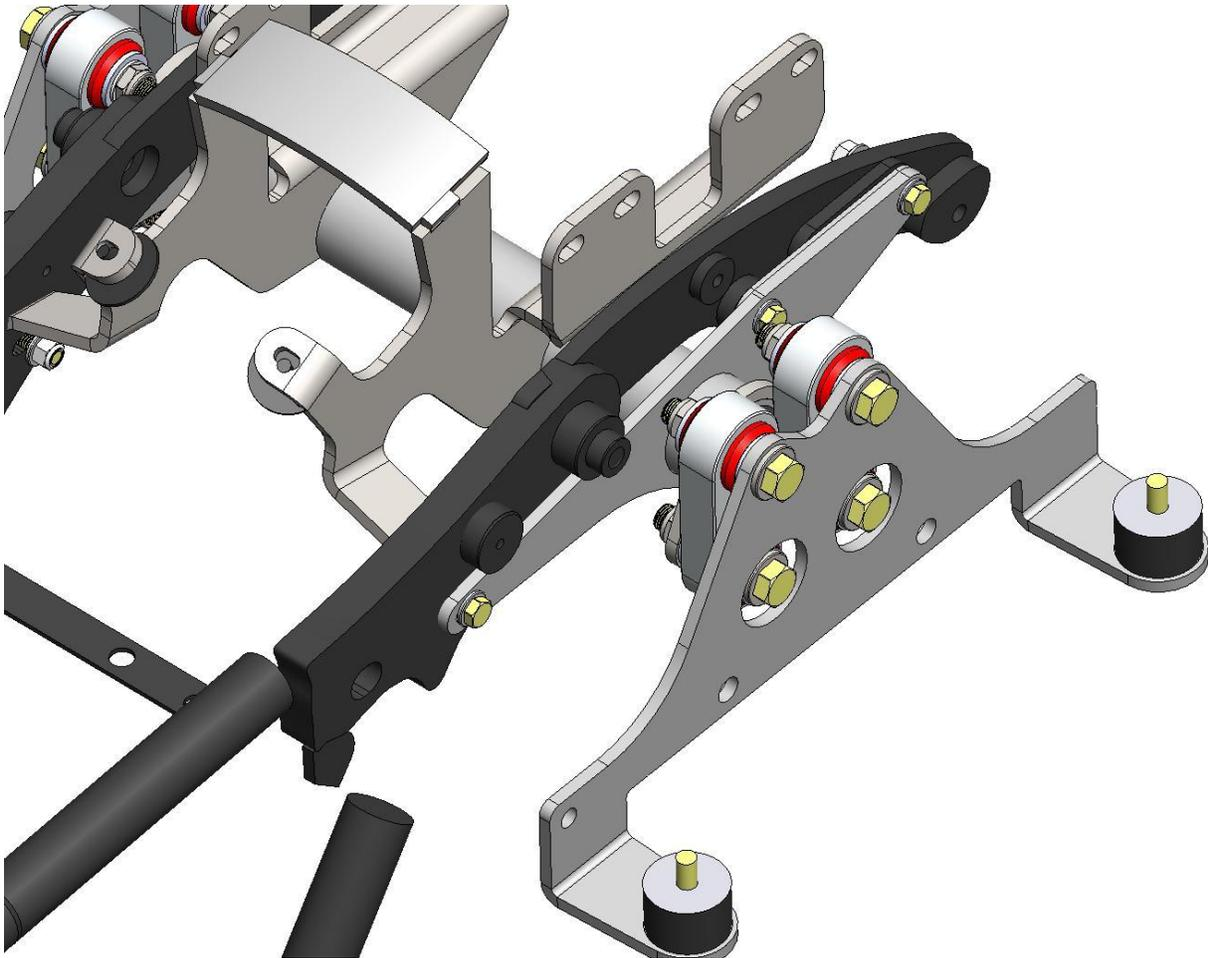

Figure 8
- a. Install the Top Frame/Seat Mount as shown using the supplied hardware. See **Figure 8**. Torque hardware to 20 ft-lb.